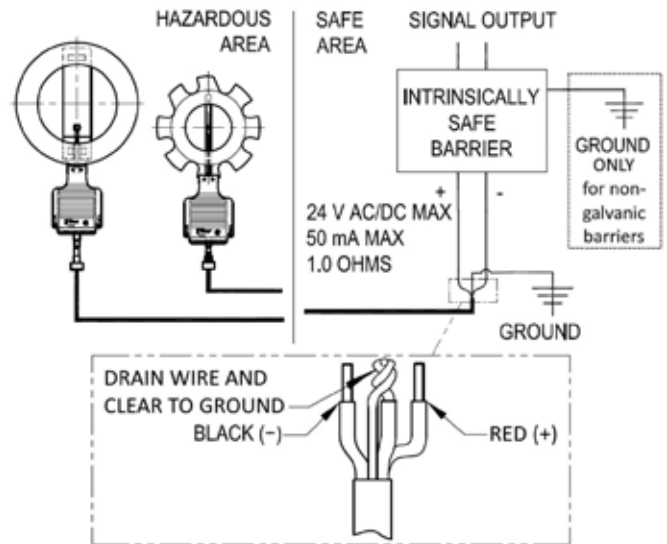

Figure 2 - BC2/BC2 LP Wiring Diagram
6. Connect the BC2/BC2 LP receptacle to lead wire with electrical plug connector as shown in Figure 2.
The indicator should be wired per the wiring diagram illustrated in Figures 2 and 5. Install in accordance with all applicable local and national codes (in Canada, Canadian Electrical Code, Part 1).